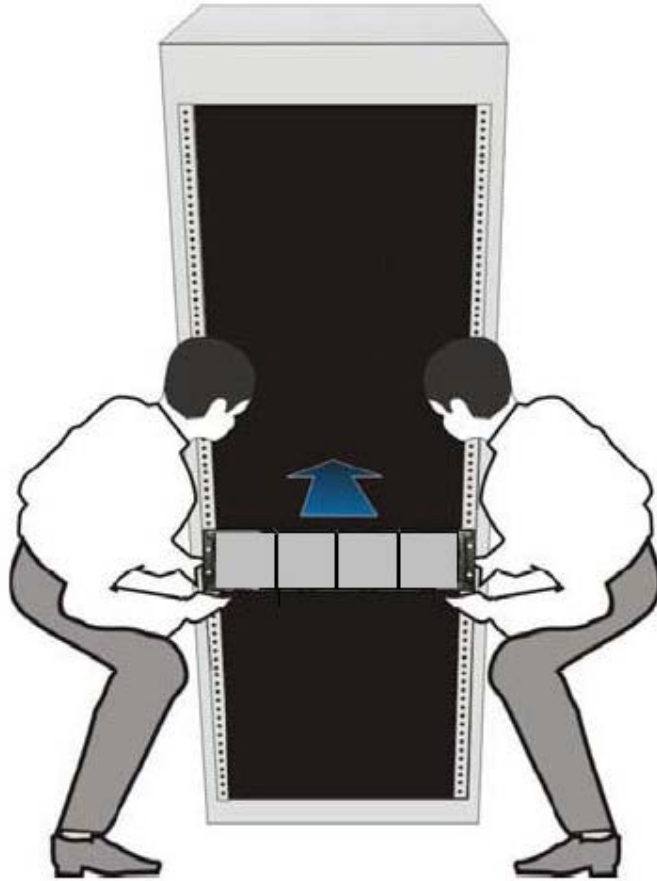

Figure 4-4
2. To keep the storage system leveled, place the front of storage system on L-shaped guide rail (now persons in the front shall support it to guarantee safety), push it into the cabinet steadily, after entering about 1/3, the number of persons could be reduced to two, finally, push the equipment into the cabinet completely, as shown in Figure 4-4.